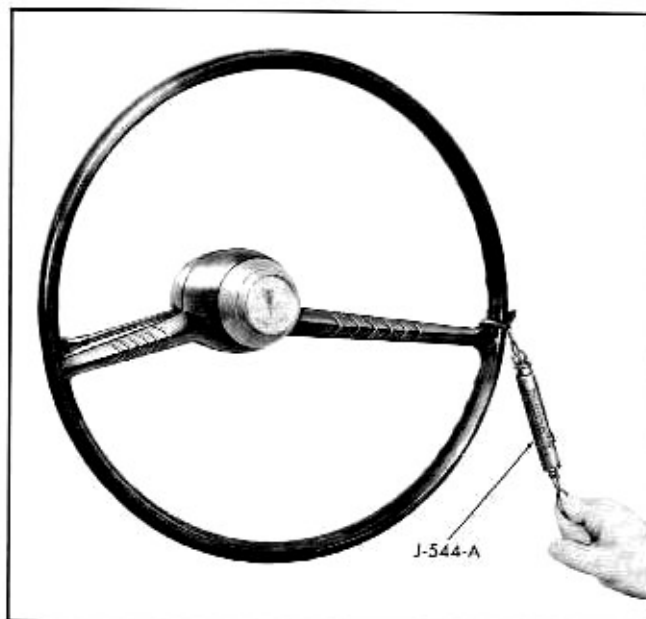

Fig. 9-18 Checking Pull at Wheel Rim
5. With a spring scale at rim of steering wheel, measure pull required to keep wheel in motion when off high point, at least 30° off center (Fig. 9-18).